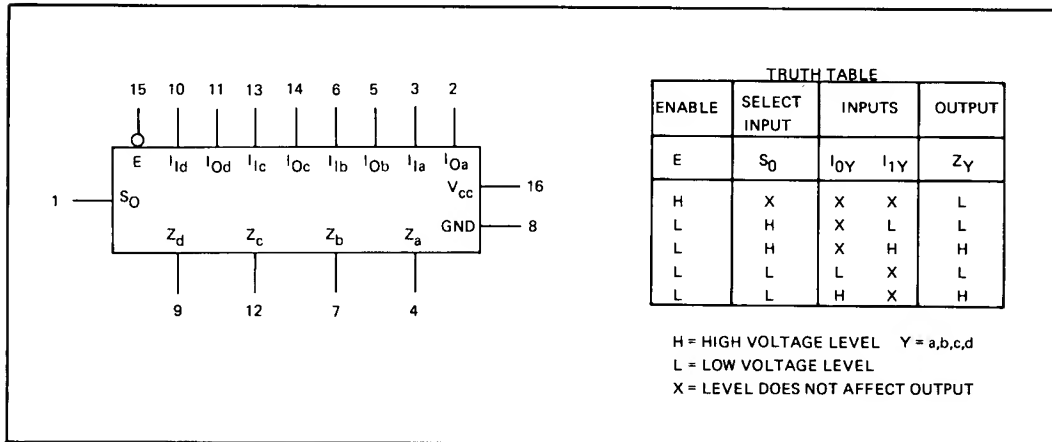

Figure 4-9. Quad Two Input Multiplexer A5U7
4-45. The quad two-input multiplexer shown in *Figure 4-9* consists of four multiplexing circuits with common select and enable logic. The enable input (E) is active low. When not activated all outputs (Z) are low regardless of all other inputs. The quad two-input multiplexer is the logical implementation of a four-pole two-position switch, with the position of the switch being set by the logic level supplied to the one select input.